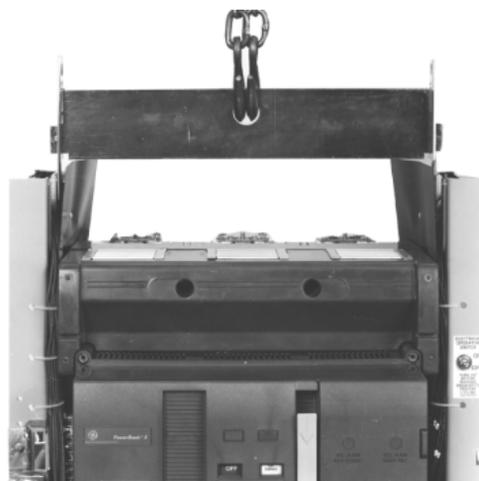

Figure 11. Lifting Bar attached to the breaker for lifting with a hoist.
6. Attach a Lifting Bar, catalog number TDOLB, by locating the hooks on the bar beneath the shoulder studs on the breaker, as illustrated in Figure 11.